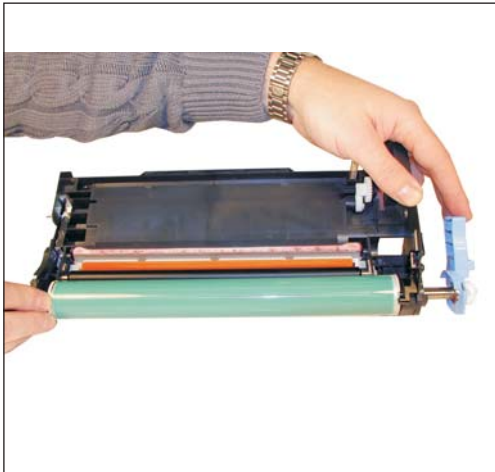

Figure 45
24) Install the drum axle shaft. See Figure 45